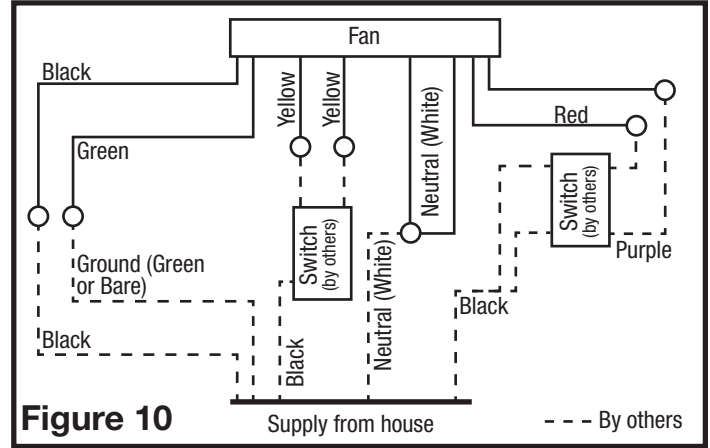

Figure 10
3. **Intermittent Ventilation:** For two speed fans wired for intermittent ventilation with a standard duplex toggle switch (such as Leviton 5224-2W not included). Connect the White wires of the fan to the White (Neutral) wire from the power source. Connect the ground wire from the fan to the ground wire from the power source. Properly ground the switches. Connect the black wire from the supply to one side of the top switch. Connect the black wire from the fan to the other side of the top switch, Connect 1 yellow wire from the fan to each side of the bottom switch. The top switch turns the fan On & Off, the bottom switch changes speed between high and low. Using a second properly grounded standard duplex toggle switch, connect the Black wire from the supply to one side of the top and bottom switch. Connect the Red wire (light) from the fan housing to the other side of the top switch and connect the Purple wire (night light) from the fan housing to the other side of the bottom switch (Figure 10).